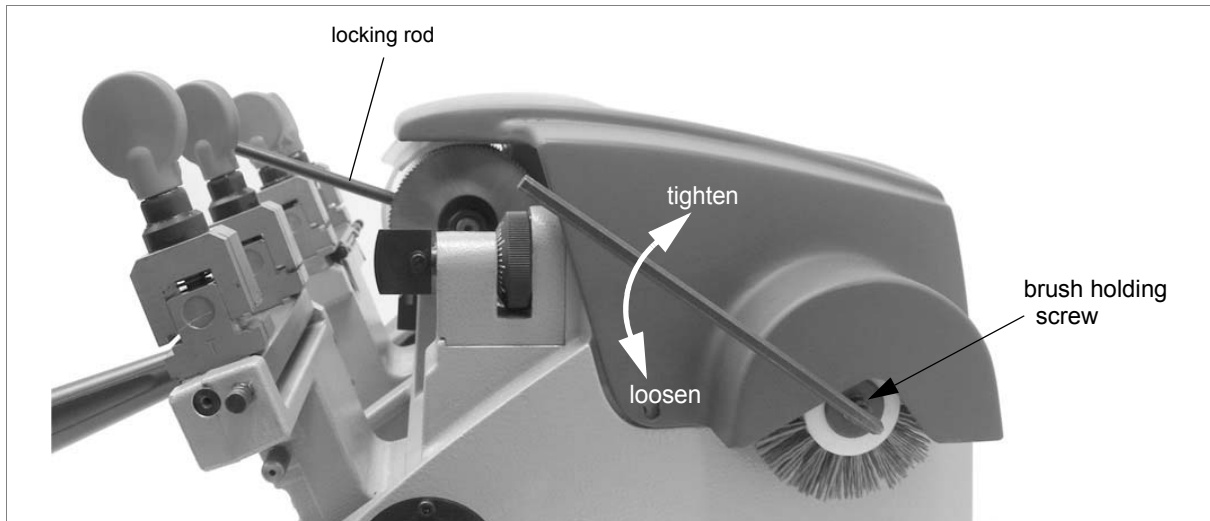

Fig. 48
- 2) Use the Allen wrench (provided) to loosen the screw holding the brush in place (fig. 48).